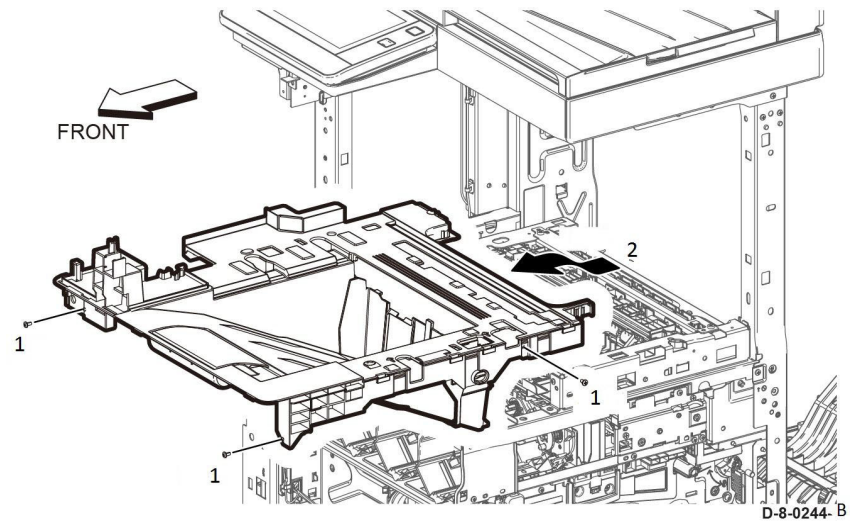

Figure 2 Top cover removal
4. Remove the top cover, Figure 2:
- a. Remove three screws (1).
- b. Remove the top cover assembly (2).